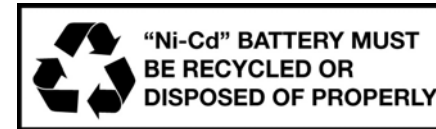

Fig. 7
4. Carefully lift out the battery pack and disconnect the wire terminals by pulling apart the wire terminal connectors. Remove the battery pack from the unit. (Fig. 7)